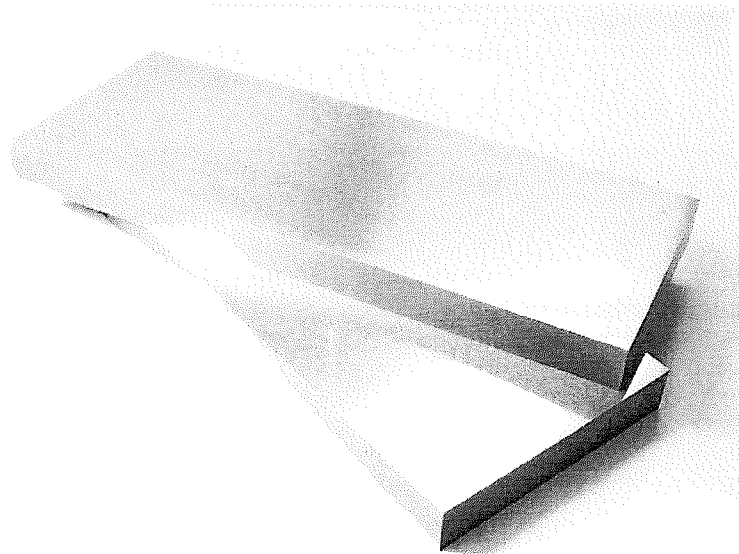

Figure 3: Metal sample (5cm x 3cm x 0.5cm)
30. Figure 3 shows metal sample sent by company AAM Sdn. Bhd. For electrochemical impedance spectroscopy (EIS) testing.